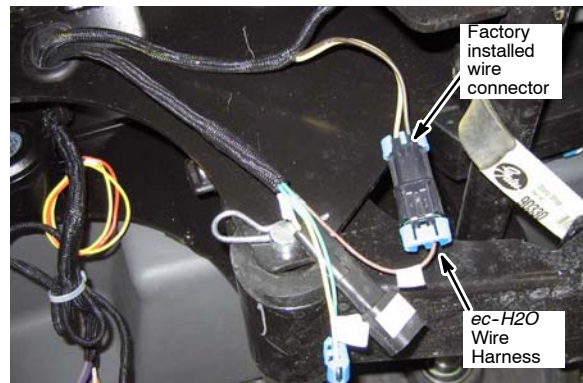

Fig. 15
15. Connect the open wire connector into the *ec-H2O* wire harness as shown (Figure 15).